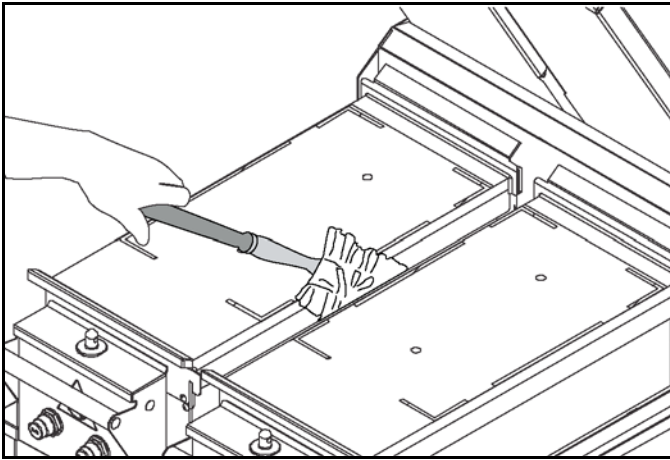

Figure-161
32. Remove the multi-use tool pad from the flat paddle tool and snap on the sanitizer-soaked universal pad. Clean in between and behind the platens and surrounding areas, such as the hood and bullnose. See Figure-161.